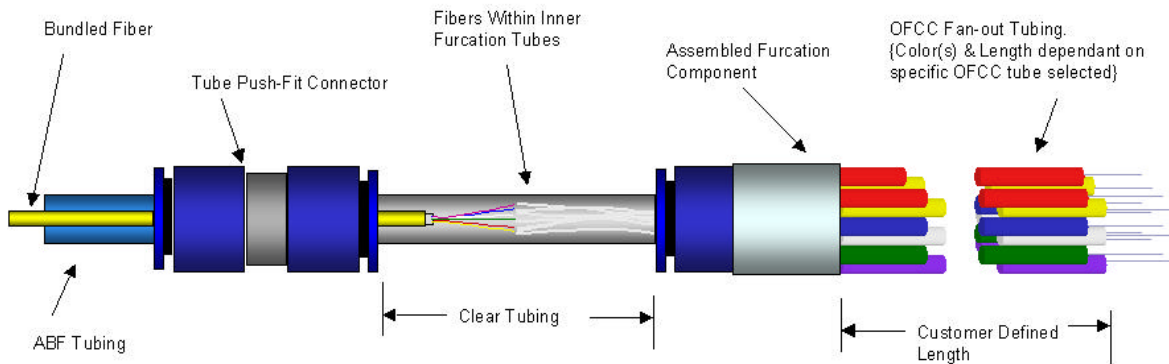

Figure 5. Assembled furcation unit.
Step 9 - Apply a thin layer of caulking compound around the last 6 mm (0.25 in) of the BOF tube of the furcation unit. Carefully insert the furcation unit tube into the tube coupler to a maximum depth of 11/16". This depth is indicated on the Clear Tubing by a blue scribed line (see figure 5). Ensure that no fibers are kinked within the tube as it is inserted into the tube coupler. Apply an axial load of approximately 22 N (5 lbs) between the BOF tube and the furcation unit to verify that they are properly engaged into the tube coupler.